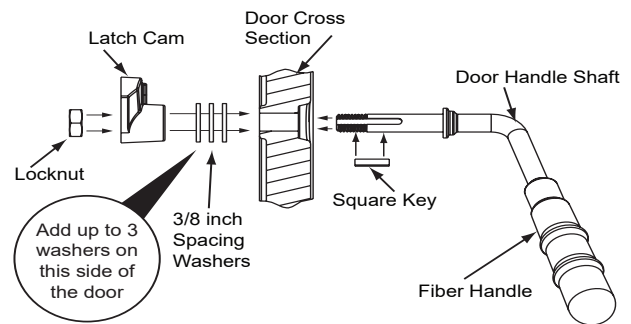

Figure 27.4
2. Install additional washer(s) as shown in **Figure 27.4**
6. Install fiber handle (**Figure 27.4**).